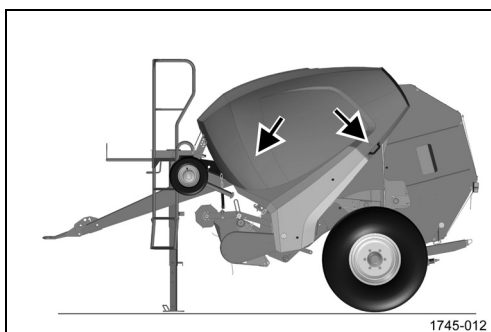

Figure 6
- Catches at the left and right guard casing: Figure 6